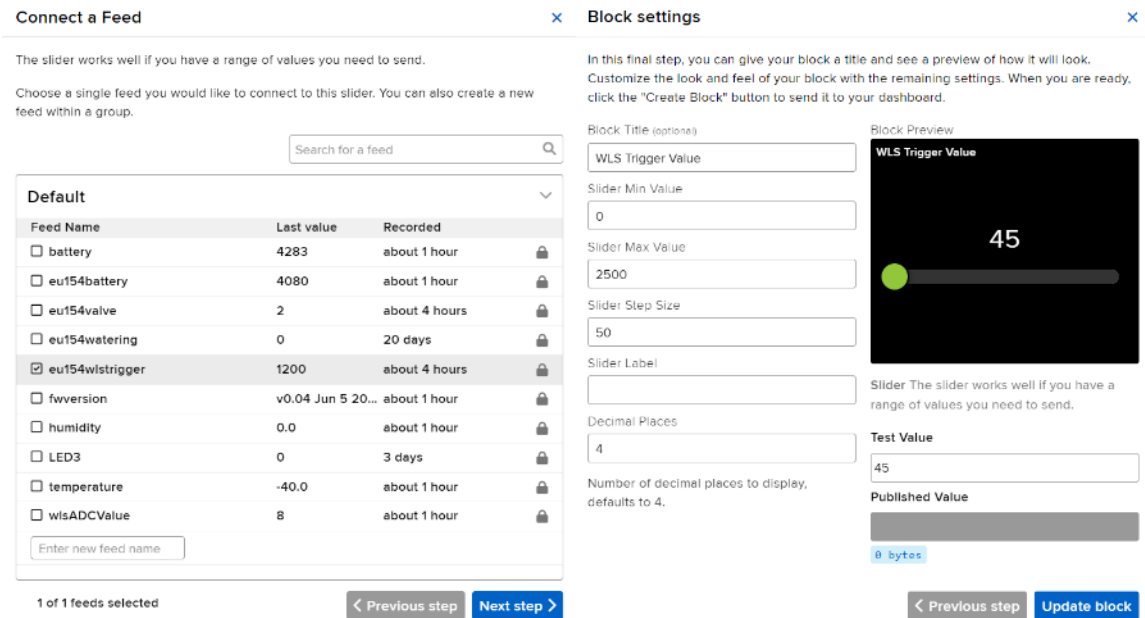

Figure 15. Trigger value setup for automatic valve control
3. Trigger value for automatic valve control could be set using the slider widget associated with “eu154wlstrigger” feed as it is shown in Figure 15. Please note that maximum value for WLS sensor is 2500.